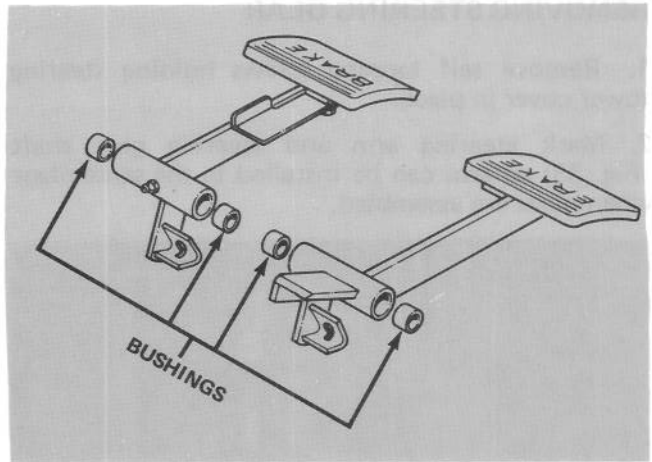

Figure 31
4. Using pin punch and hammer, drive both bushings out of brake pivot (Fig. 31). Clean inside of brake pivot to remove dirt and foreign matter.